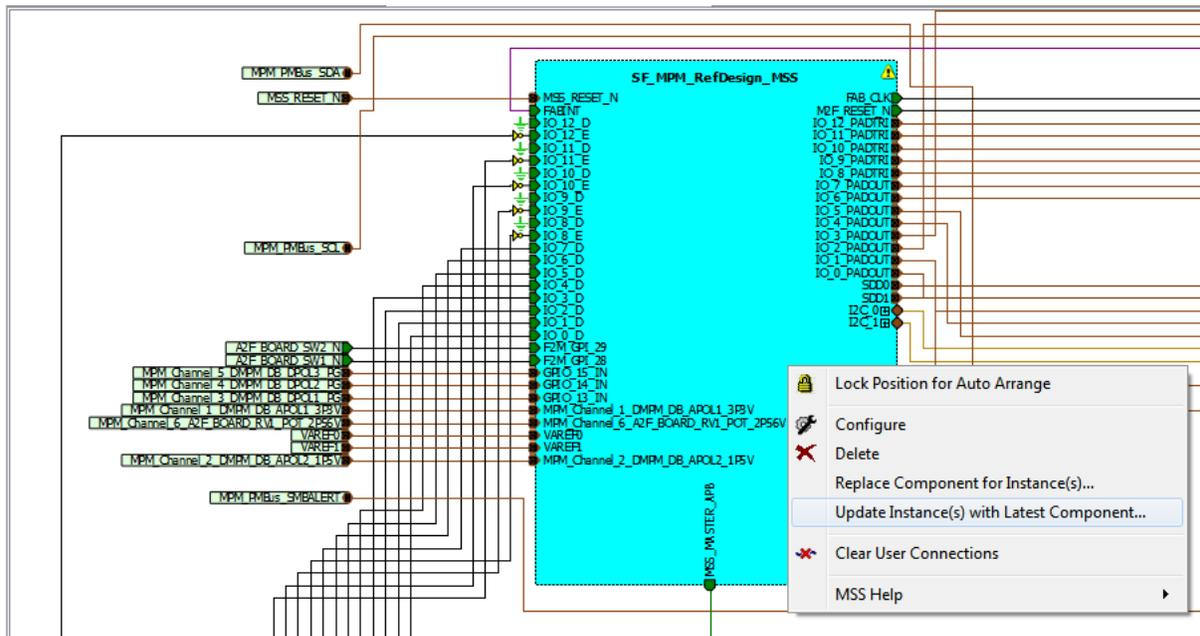

Figure 25 • Updating MPM_MSS_0
6. In Libero, right click SF_MPM_RefDesign_MSS block, select Update Instance(s) with Latest Component as shown in Figure 25.